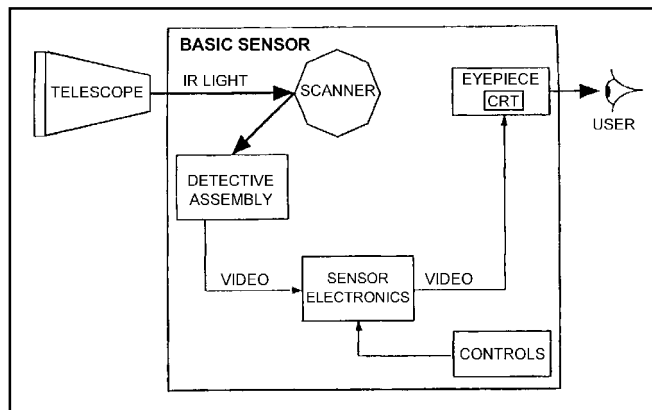

Figure G-22. MWTS configurations.
a. **Telescope.** The telescope receives IR light emitting from an intended target and its surroundings. The telescope magnifies and projects the IR light on the scanner on the basic sensor (Figure G-22, page G-24).